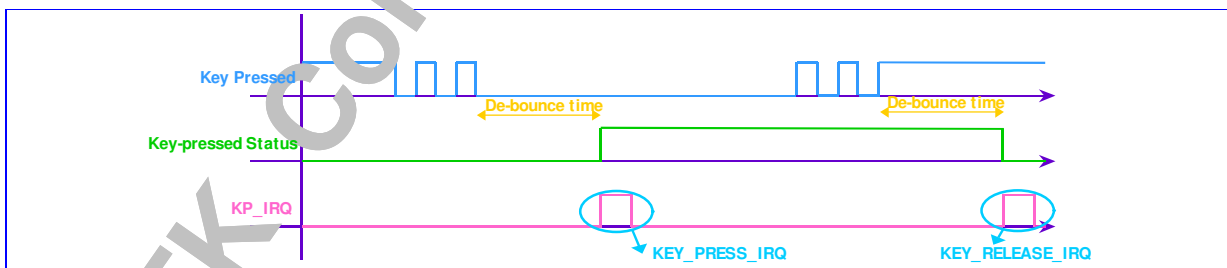
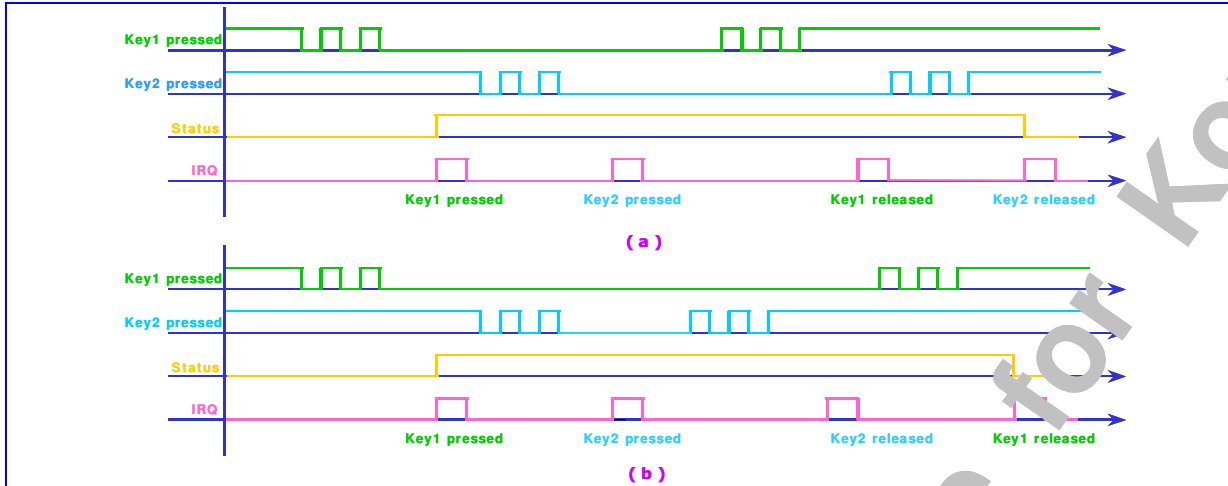
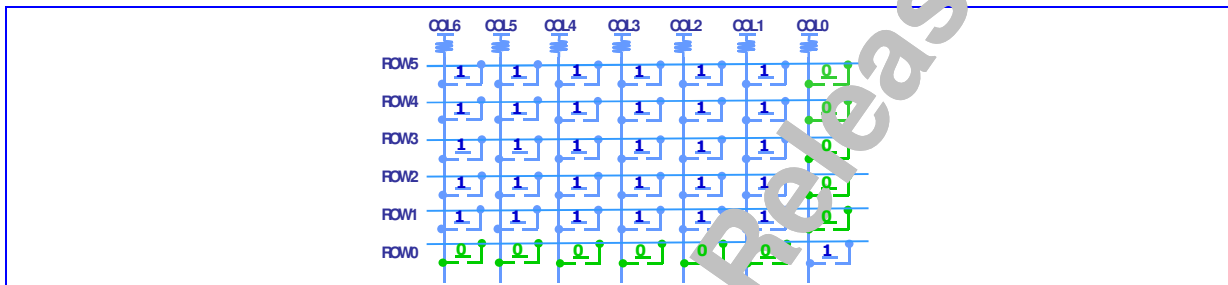

Figure 45 One key pressed with de-bounce mechanism denoted
Figure 46 (a) Two keys pressed, case 1 (b) Two keys pressed, case 2
Figure 47 11 keys are detected at the same time
This keypad can detect one or two key-pressed simultaneously with any combination. **Figure 45** shows one key pressed condition. **Figure 46(a)** and **Figure 46(b)** illustrate two keys pressed cases. Since the key press detection depends on the HIGH or LOW level of the external keypad interface, if keys are pressed at the same time and there exists a key that is on the same column and the same row with the other keys, the pressed key cannot be correctly decoded. For example, if there are three key presses: key1 = (x1, y1), key2 = (x2, y2), and key3 = (x1, y2), then both key3 and key4 = (x2, y1) are detected, and therefore they cannot be distinguished correctly. Hence, the keypad can detect only one or two keys pressed simultaneously at any combination. More than two keys pressed simultaneously in a specific pattern retrieves the wrong information. If these specific patterns are excluded, the keypad-scanning block can detect 11 keys at the same time, shown in **Figure 47**.